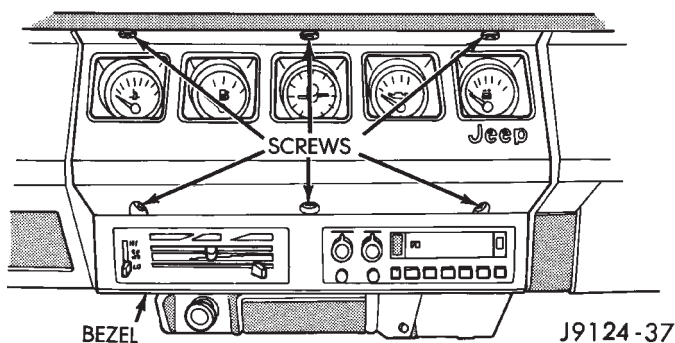

Fig. 1 Instrument Cluster Bezel
(1) Remove instrument cluster bezel attaching screws (Fig. 1).
(2) Remove instrument cluster bezel.
(3) Remove screws attaching the heater control panel to the instrument panel.
(4) Slide control panel outward and disconnect the cables, vacuum hoses and electrical wires from the control panel.
(5) Remove control panel.